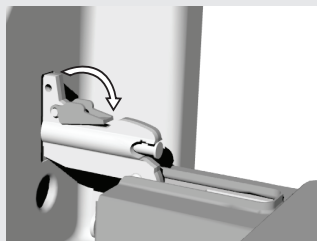

figure 2
- With **GentleClose** door system, rotate the stoppers back by 90°(Figure 2).